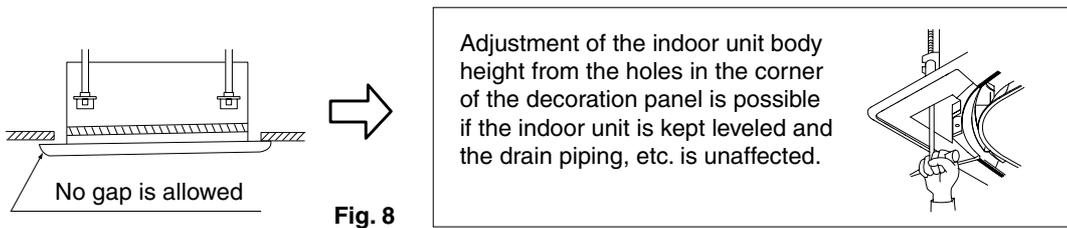

Fig. 8
- If gap is still left between the ceiling and the decoration panel after screwing the screws, readjust the indoor unit body height. (Refer to Fig. 8)